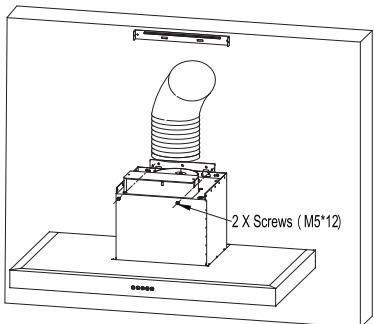

Fig.6
- Fix the exhaust pipe on the main body, lock screws (M5*12) to prevent the range hood from accidentally sliding off the installation plate. See Fig.6.